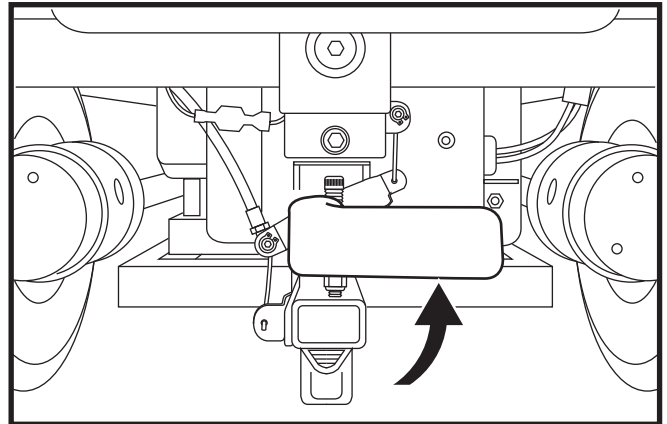

Figure 9. Drive Mode (Drive Engaged)
2. Rotate the manual freewheel lever anticlockwise for drive mode (drive motors engaged.) See figure 9.